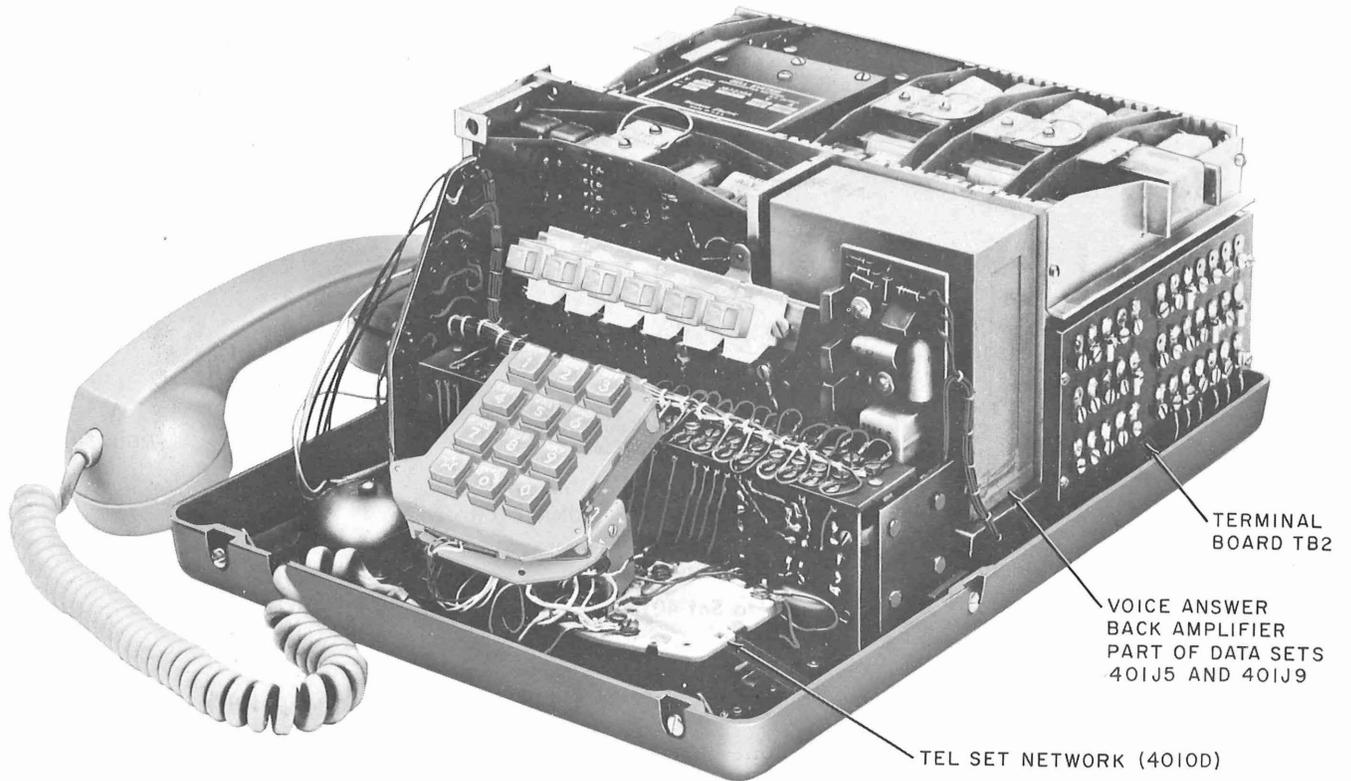

Fig. 4—Data Set 401J5 and 401J9, Inside View
- (1) Remove the data set covers.
- (2) Remove the following leads:
- Yellow and slate (Y)(S) leads from terminal F of the telephone set network (see Fig. 4)
- Brown (Br) lead from terminal L1 of the telephone set network (see Fig. 4)
- White (W) lead from TB3-3 (under the dial shown in Fig. 4)
- Green (G) lead from TB3-4 (under the dial shown in Fig. 4)
(3) Connect the following leads:
- Yellow and slate (Y)(S) leads to TB3-3 (see Fig. 4)
- Brown (Br) lead to TB3-4 (see Fig. 4)
- White (W) lead to terminal F of the telephone set network
- Green (G) lead to terminal L1 of the telephone set network
(4) Replace the data set covers.